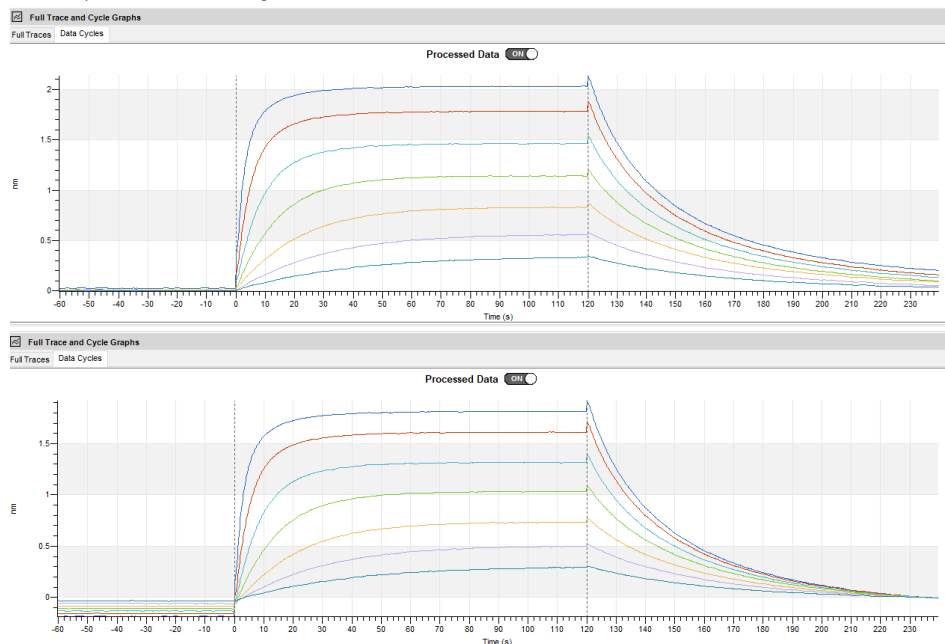

Figure 4-67: Y-axis aligned to Average of Segment of Dissociation Step Uncorrected (Top) and Corrected Data (Bottom)
- **Average a Segment of Dissociation Step** - This option is used to adjust the end of the dissociation step to $Y=0$ to demonstrate complete dissociation. An example of data aligned to the average of a segment of dissociation step is shown in Figure 4-67.